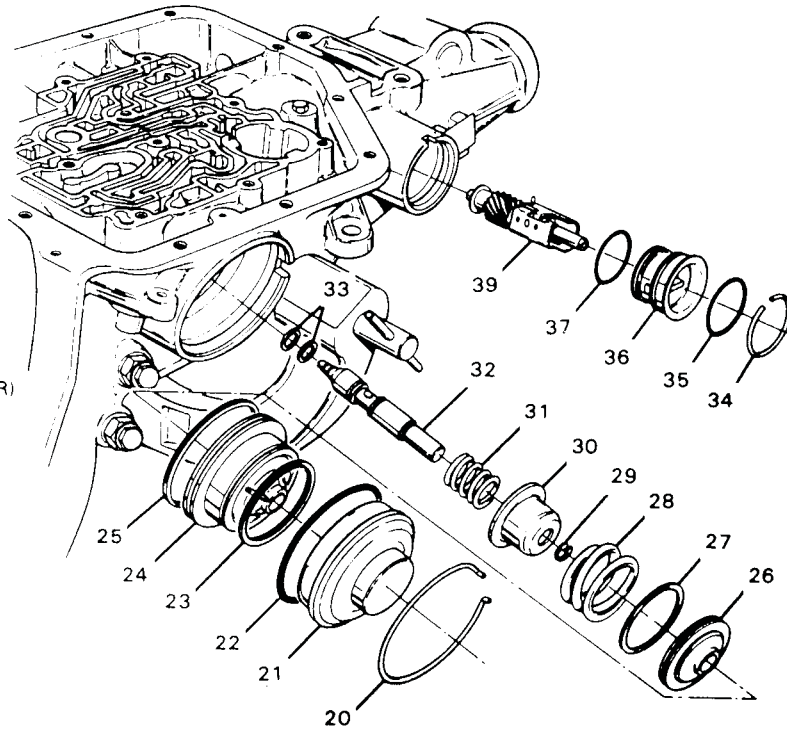

Figure 110
1. Assemble the intermediate servo assembly using Figure 110 as a guide.
13. Install the governor and cover assembly into case as shown in Figure 110.
15. Install the governor cover retaining ring into the case, as shown in Figure 110.